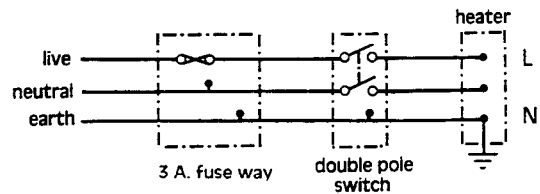

Fig. 3
3. An un-switched socket outlet complying with BS 1363. The method of connecting the plug brown wire to live (L) blue wire to neutral (N) and green/yellow to earth (), see fig. 3.